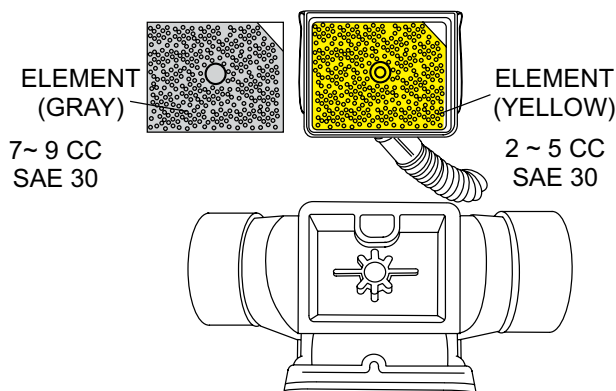

Figure 23. Primary Air Cleaner
- Remove the element from the pre-cleaner (Figure 23) at the top of the crankcase (body side) and clean it with cleaning oil (kerosene).